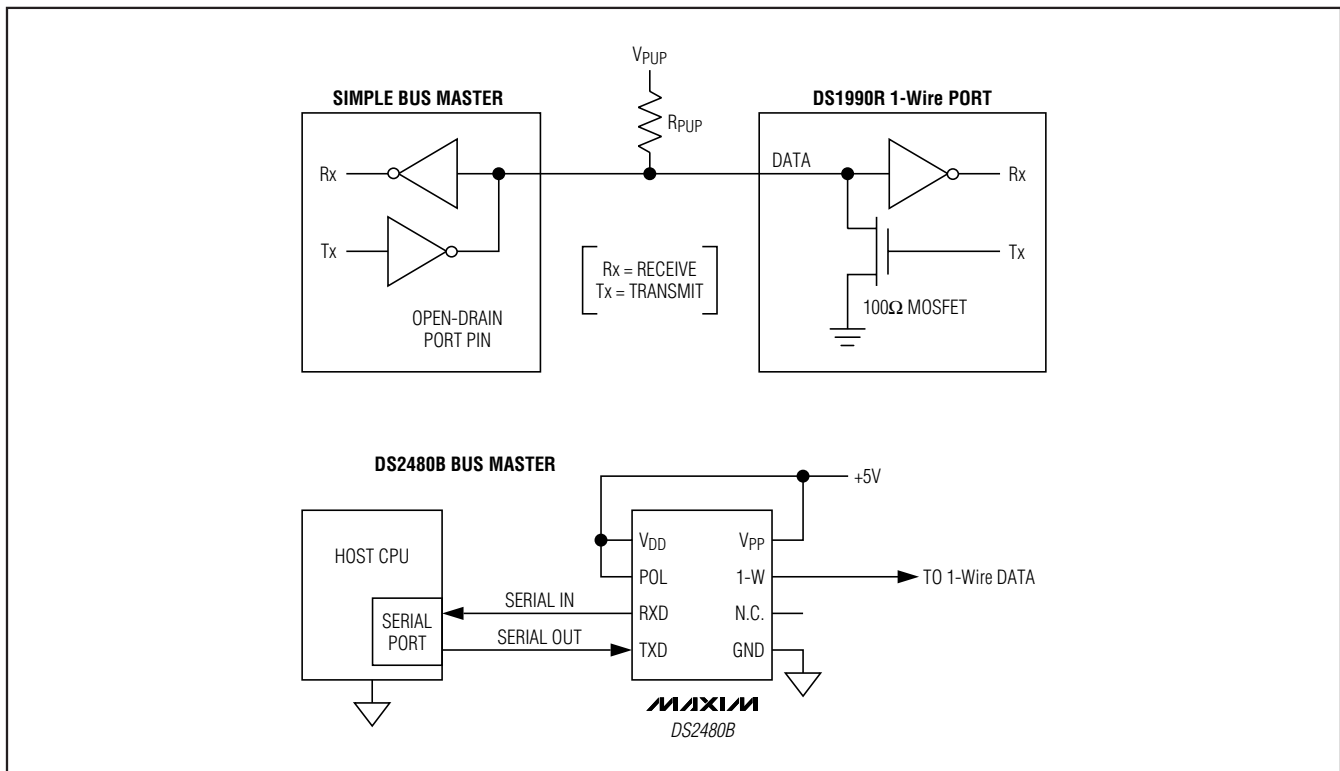

Figure 4. Hardware Configuration
**Note 2:** External pullup voltage. See Figure 4.
The 1-Wire bus has only a single line by definition; it is important that each device on the bus be able to drive it at the appropriate time. To facilitate this, each device attached to the 1-Wire bus must have open-drain or three-state outputs. The 1-Wire port of the DS1990R is open drain with an internal circuit equivalent to that shown in Figure 4. A multidrop bus consists of a 1-Wire bus with multiple slaves attached. At standard speed, the 1-Wire bus has a maximum data rate of 16.3kbps. The value of the pullup resistor primarily depends on the network size and load conditions. For most applications, the optimal value of the pullup resistor is approximately 2.2kΩ. The idle state for the 1-Wire bus is high. If for any reason a transaction needs to be suspended, the bus **must** be left in the idle state if the transaction is to resume. If this does not occur and the bus is left low